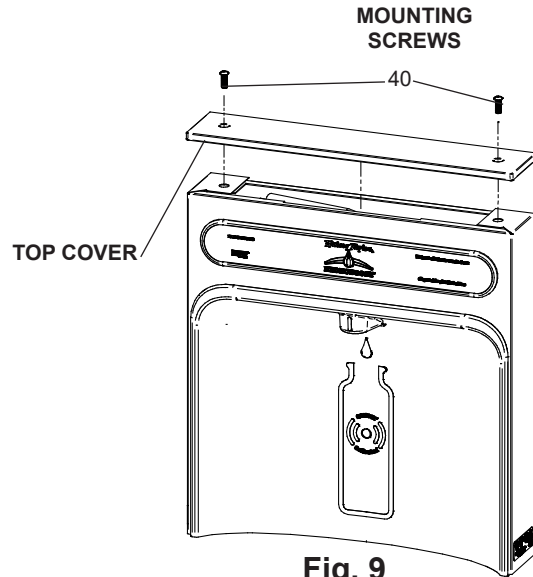
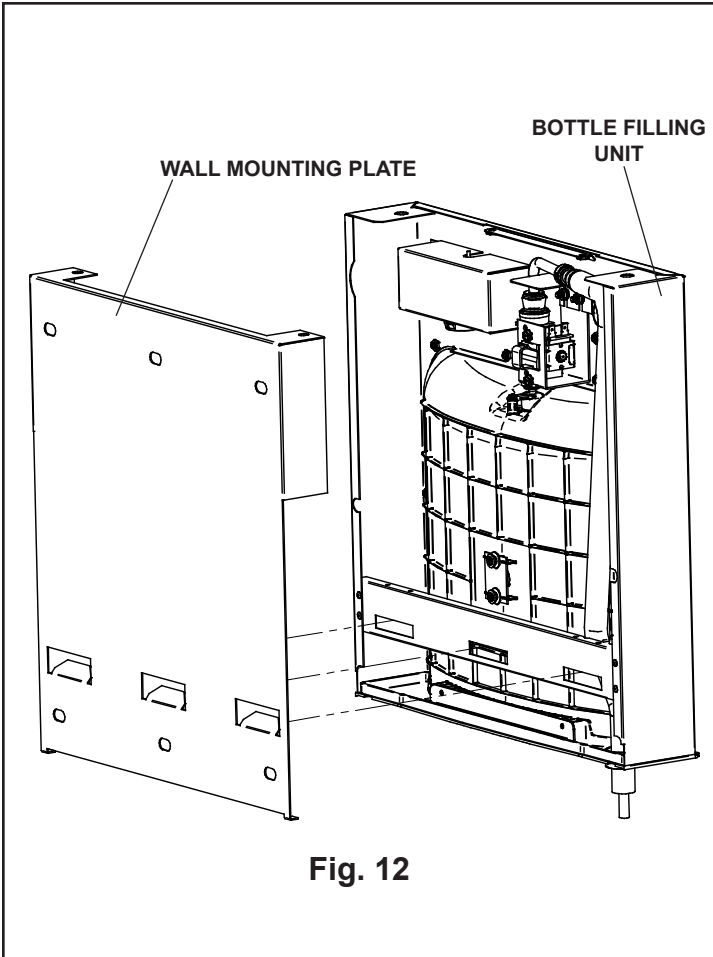

Fig. 9
Fig. 12
- 1) Remove two (2) mounting screws with 5/32" Allen wrench holding top cover to Bottle Filler (See Fig. 9). Remove top cover. Note do not discard mounting screws, they will be needed to reinstall top cover.
- 8) With the power cord and waterline through hole on top of water cooler place Bottle Filler on the three (3) angled tabs protruding from the wall mounting plate installed on wall. Make sure round boss in gasket fits in hole of basin. (See Fig. 12).
- 9) Once Bottle Filler is installed on wall plate tabs, water line and power cord are installed properly, push top of Bottle Filler toward wall and line up top cover two (2) holes.
- 10) Reinstall Top Cover on Bottle Filler (See Fig. 9) with two mounting screws from step 1 above. Caution, do not over tighten screws.